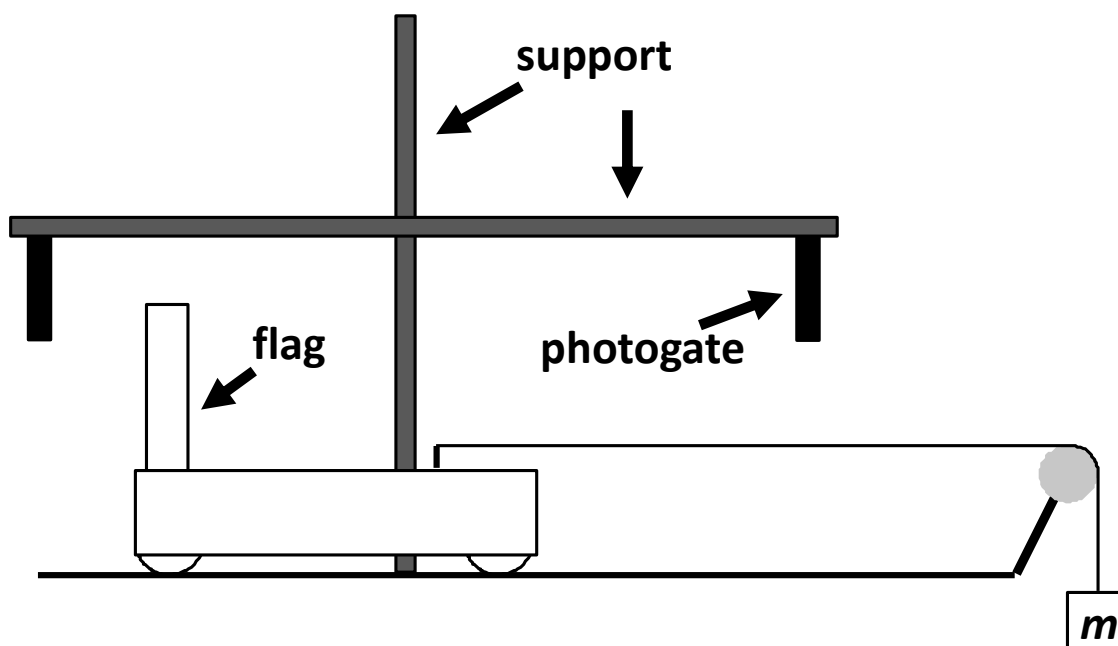
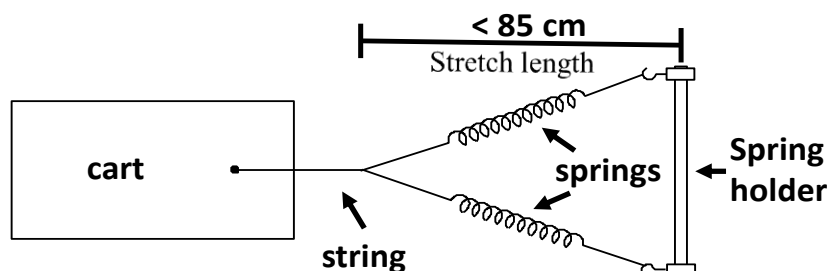

Fig. 1 Arrangement for pulling the cart with a weight (side view).
Fig. 2 Arrangement for pulling the cart with the spring apparatus.
To see how this works, we will deal with a slightly simplified situation in which the motion is restricted to a straight line. Forces will be applied by hanging mass, m , as in Fig. 1 or by springs as in Fig. 2 and, inevitably, by friction. Calling the force pushing the object of interest F and the friction force f , Eq. 1 reduces to
Set up the cart and hanging mass, as suggested by Fig. 1. Attach the metal flag vertically to the magnet at the side of the cart (make sure the long sides of the metal flag sits as perpendicularly as possible to the cart) and adjust the height of the gates so that the metal flag goes through the photogates without hitting. **Plug the power adapter for the “Vernier Lab pro” box into a power outlet if you have not already done so.** Start LoggerPro from the file **Work.cmb1** **from the computer desktop** to get the proper settings for the photogates.
Now set up the cart and spring apparatus as in Fig. 2, fastening the springs to the anchor at one end of the bench and connecting the spring assembly to the cart with a string. Pull the cart back to stretch the springs and release the cart so that it travels straight toward the anchor, being sure that the flag goes through the photogates. The net force on the cart in this set up is non-constant and non-zero. **Do not extend the spring apparatus over 85 cm as indicated in Figure 2** to avoid permanent deformation. You can find the change in kinetic energy with the photogates as you did previously.
When setting up your cart and spring apparatus for this part of the experiment, **the stretch length of the spring apparatus needs to be at least 16 cm when the flag of the cart is at the photogate closest to the end of the table where the spring holder is attached to the table. The stretch length is the distance between the spring holder and the knot that ties the springs to the string as indicated in figure 2.**
You will need to repeat the measurement three times with the same initial stretch length to get an average for ΔK . To find the work done by the springs you will need to measure their force as a function of their stretch length, and then integrate over the distance between the photogates. **The stretch length is the distance between the spring holder and the knot that ties the springs to the string as indicated in figure 2.** You need to first find the stretch lengths of the spring apparatus when the flag is in each photogate. This can be done by positioning the cart in each gate and measuring the distances from the spring holder to the knot in the string when the metal flag is in each photogate. **The integration will be done over this range of stretch length.**
Next, you can determine the spring force as a function of stretch length. There are vertical supports at the two tables at the back of the room near the printer which you can use to suspend weights from your spring assembly. The stretched length is defined the same way as shown in figure 2 **(From the spring holder to the knot that ties the springs to the string).** The weight you attached to the spring apparatus is the applied force to the spring apparatus. **Plot the applied force to the spring apparatus (F) vs stretched length. The applied force F must be the values plotted on the vertical axis.** Following Eq. 2, use LoggerPro **to integrate** the force over the range of stretch length between which the cart passed through the two photogates and thereby find W_{Spring} .